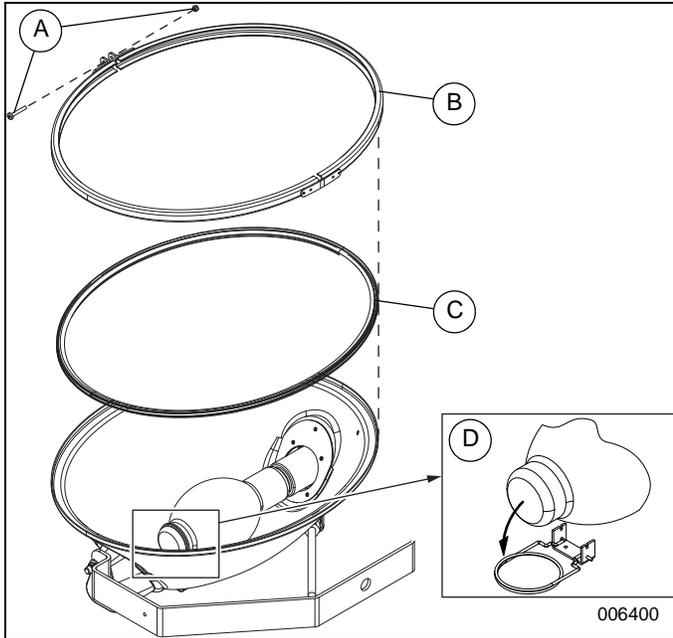

Figure 4. Bulb Removal
- See Figure 4. Remove bulbs from light fixtures: Remove hardware (A), lid (B), and gasket (C). Unfasten bulb support (D). Remove and retain bulb.